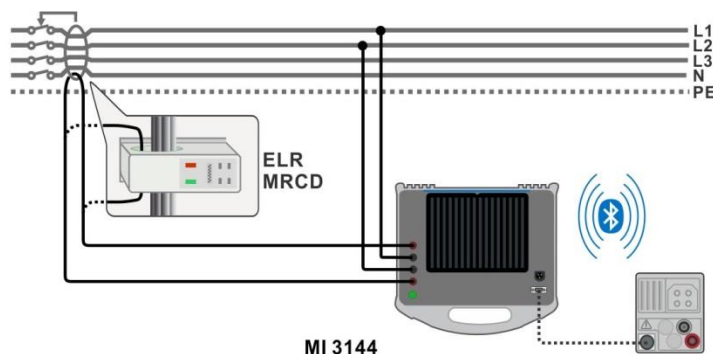

Figure 7.112: ELR Current Injection Test / Combination Time Test connection
- › Connect MI 3152(H) instrument with MI 3144 Euro Z 800 V instrument via serial RS232 or pair them using Bluetooth communication. See **4.6.5.1 Selection and configuration of measuring adapters**.
- › Check Bluetooth communication active sign if MI 3144 Euro Z 800 V instrument is connected to MI 3152(H) instrument via Bluetooth communication.
- › Connect test leads to the object under test. See **Figure 7.112**.
See **Figure 7.112**.
- › Connect MI 3152(H) instrument with MI 3144 Euro Z 800 V instrument via serial RS232 or pair them using Bluetooth communication. See chapter **4.6.5.1 Selection and configuration of measuring adapters**.
- › Connect test leads to the object under test. See **Figure 7.112**. Refer to **MI 3144 Euro Z 800 V Instruction manual** for detailed information.